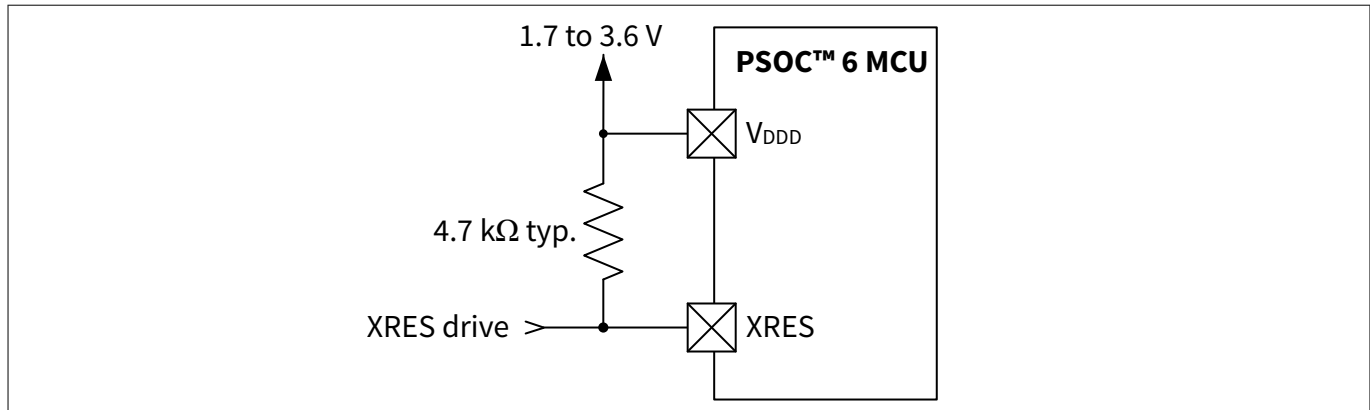

Figure 6 XRES connection diagram
- External reset dedicated pin (XRES) to reset the device using an external source. The XRES pin is active low. It can be connected either to a pull-up resistor to V_{DD} , or to an active drive circuit, as Figure 6 shows. If a pull-up resistor is used, select its value to minimize current draw when the pin is pulled low; 4.7 kΩ to 100 kΩ is typical